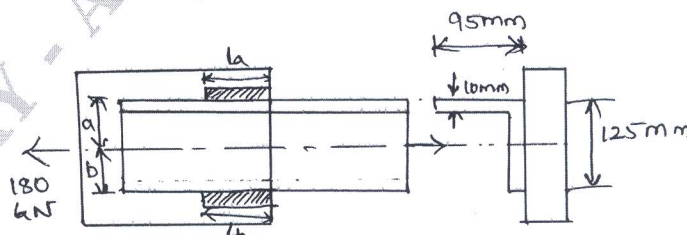

Fig.Q8(b)
b. A $125 \times 95 \times 10\text{mm}$ angle shown in Fig.Q8(b) is jointed to a flange by the two parallel welds along the edges of 125mm length. The angle is subjected to a load of 180kN. Find the length of the weld if the permissible load per mm weld length is 430N. (11 Marks)